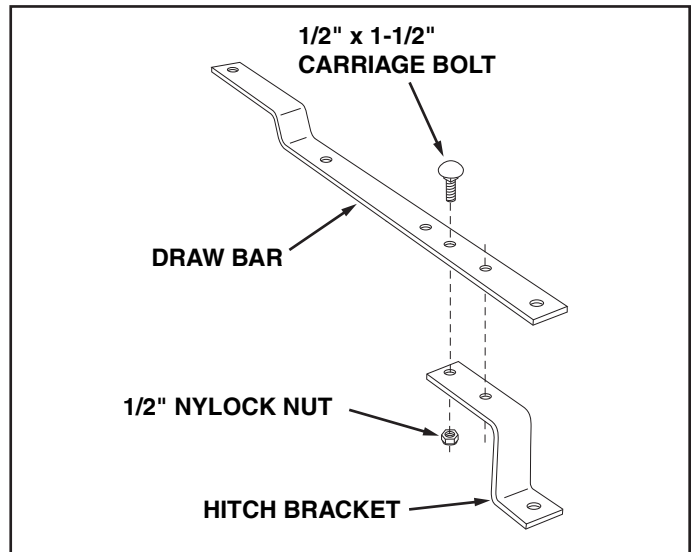

FIGURE 2
3. Assemble the hitch bracket to the draw bar using two 1/2" x 1-1/2" carriage bolts and 1/2" nylock nuts. See figure 2.